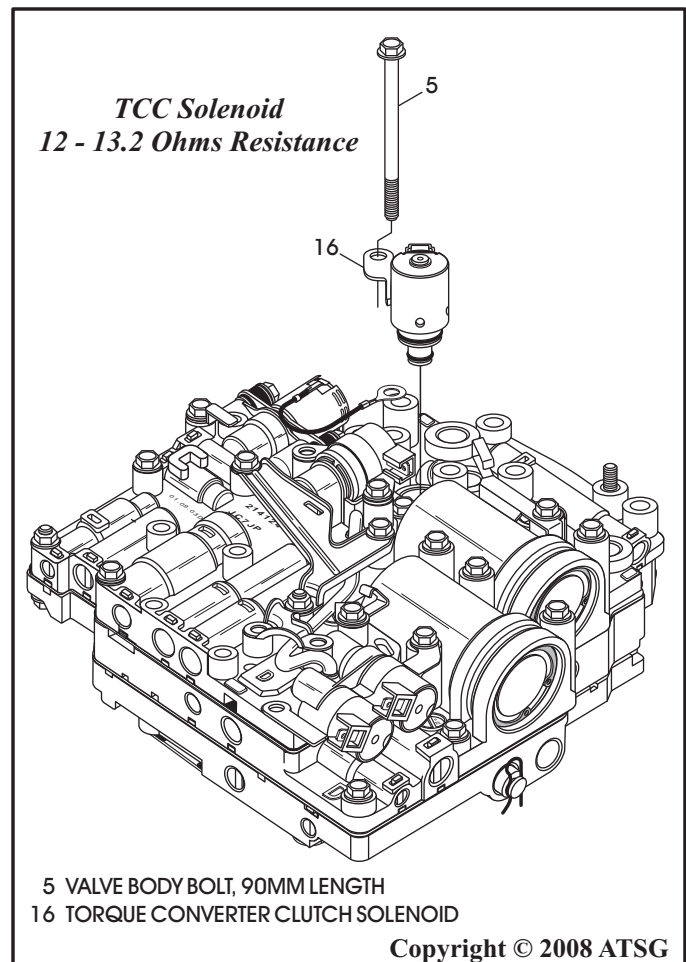

Figure 113
63. Install new "O" rings, lube with small amount of ATF, and install TCC solenoid in the valve body, with 90mm bolt, as shown in Figure 113.